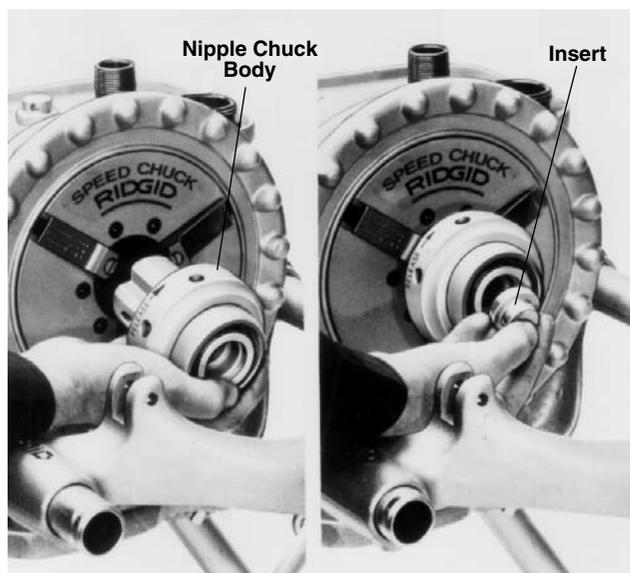

Figure 23 – Installing Nipple Chuck Body and Insert
3. Place nipple chuck body (Figure 23) in Power Drive chuck, gripping jaw grooves. Tighten chuck with snap spin of handwheel.
4. Position insert (Figure 23) with small end toward chuck body for $\frac{1}{8}$ " to $\frac{3}{4}$ " pipe; large end toward chuck body for 1" pipe; no insert required for $1\text{-}\frac{1}{4}$ " pipe and up.